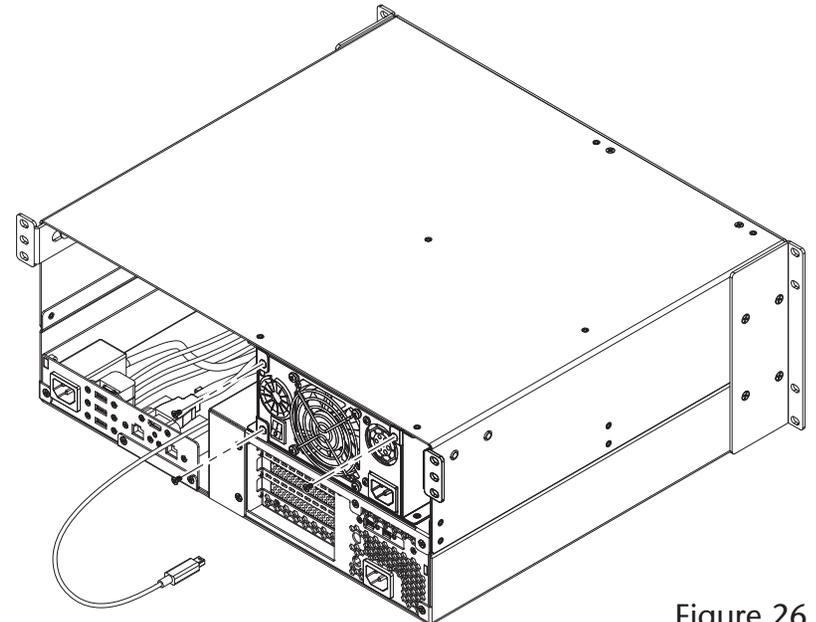

Figure 26
- Using three of the four blank plate screws you removed previously, secure the kit to the rackmount enclosure (**Figure 26**).